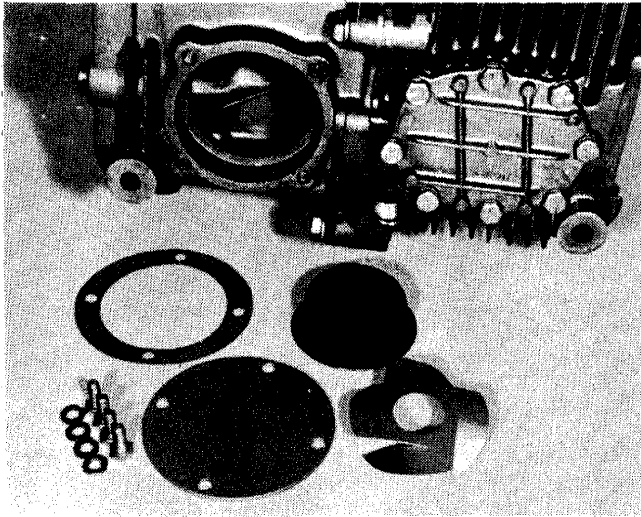

Figure 12
**NOTE:** Since the oil strainer is spring loaded, it will be necessary to apply hand pressure to the plate while the retaining screws are being removed to avoid damage to the plate or strainer. See Figure 12.